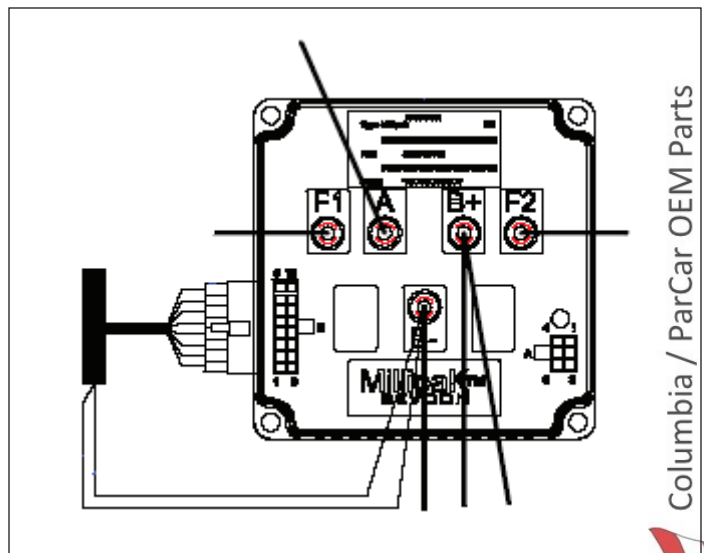

Figure 10-21. 5 Post Smartdrive Controller (LP)
The Smartdrive system uses separately excited motor and Sevcon Controller with solid state forward/reverse control and plug braking. Plug braking is non-regenerative power absorbing deceleration. It is distinguished by a 5 post controller. This system is better suited for flat terrain and reduced braking requirements. Refer to Figure 10-21.
1. Label/mark controller cables with controller terminal identification, if not already labeled. See Figures 10-21 & 10-22.
2. Smartdrive: Remove 5 Metric bolts, 5 lock washers and 5 flat washers at controller terminals (Figure 10-21). Remove all electrical cables. Remove 16 pin controller connector at port B in the lower left hand corner of the controller. See *Columbia Service Bulletin 010-06* if the wiring harness or connector are damaged.
2. Install cables to controller terminals according to schematic, and to cable identification labels. Make sure there is a flat washer under the terminal ends of the cables. This will spread the load and help prevent the terminal ends from folding over. See Figures 10-21 7 10-22..